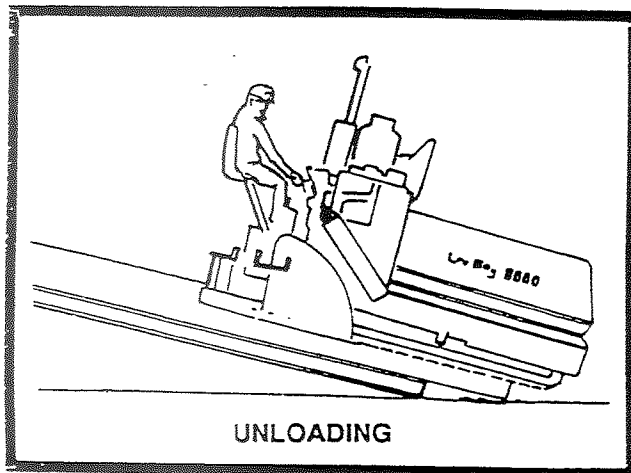

FIGURE 15
5. Move the paver forward down the ramp as shown in figure 15.